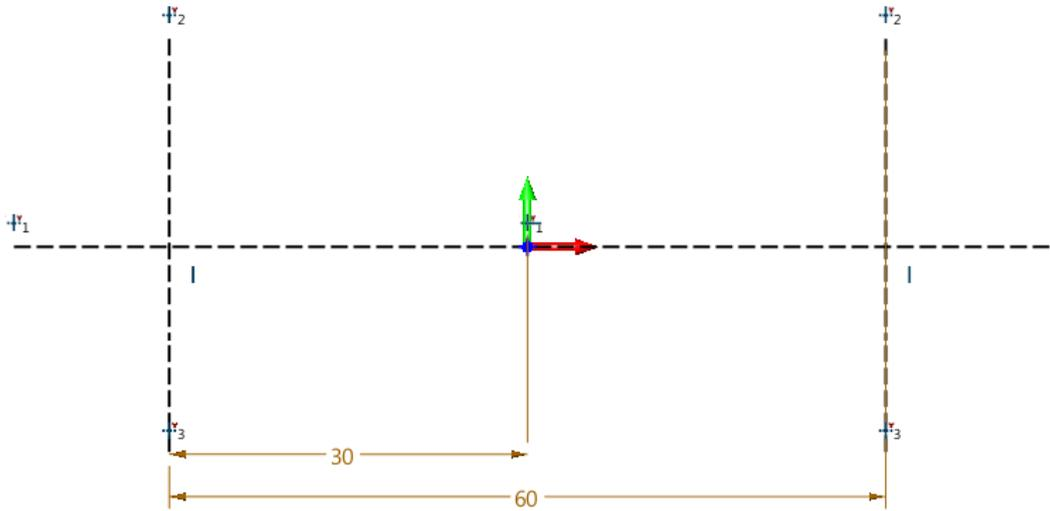

Figure 108 Construction Lines
STEP 01 Draw the construction lines, as shown in the Figure 108.